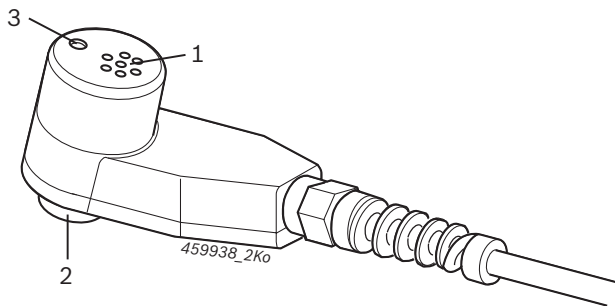

Fig. 2: Combi sensor
! With the BEA 030, BEA 055, BEA 060 or BEA 065, use can only be made of the connecting cable 1 684 463 810 (special accessory) for connection to the BEA 040. In this case, the BEA 040 is supplied with power by the BEA 030, BEA 055, BEA 060 or BEA 065 by way of the connecting cable 1 684 463 810 and the power supply unit (fig. 2, item 4) **must not be** connected.